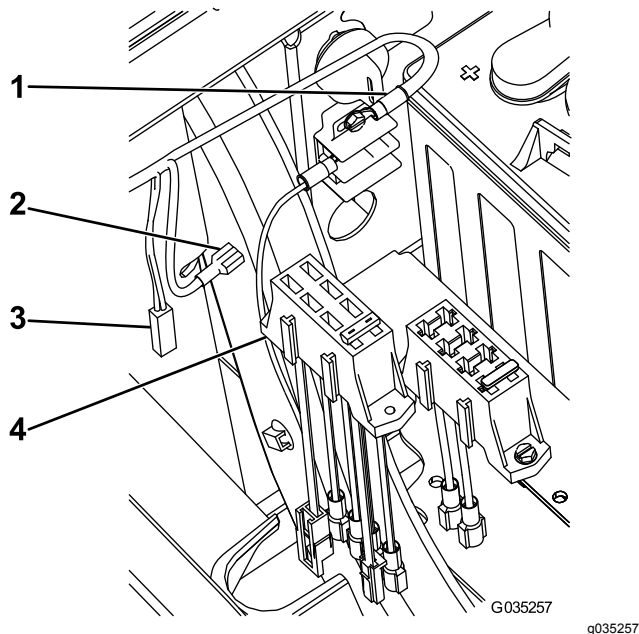

Figure 17
- For 2018 and before machines, snap the new fuse block onto the existing fuse block on the machine (Figure 17).
- Connect the large connector on the new fuse block to the optional power cable on the existing fuse block (Figure 17).
- Connect the remaining wire to the fused wire on the new fuse block (Figure 17).
- **For 2018 and before machines**, snap the new fuse block onto the existing fuse block on the machine (Figure 17).
2. Connect the large connector on the new fuse block to the optional power cable on the existing fuse block (Figure 17).
6. Connect the remaining wire to the fused wire on the new fuse block (Figure 17).